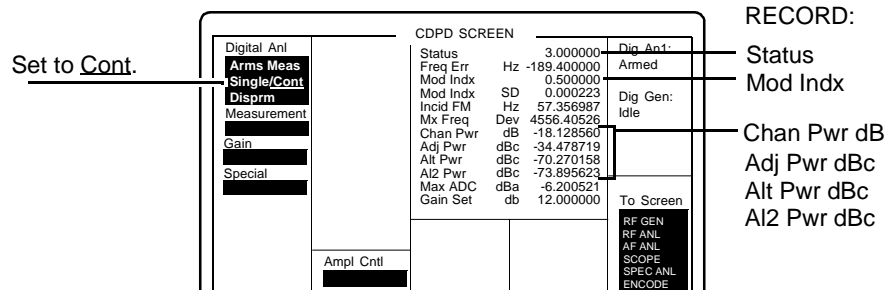

Figure 62
- Select **CDPD TEST**. The CDPD SCREEN appears, see figure 62.
- a. Record the Adjacent Channel Power, **Adj Pwr dBc** (see figure 62 on page 135), in the "CDPD Performance Record" on page 138.